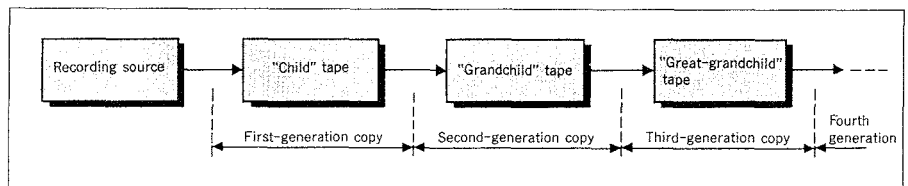

Fig. 7: Serial copying
- Serial copying means copying in series from the original source (See Fig. 7). Each succeeding tape is copied from an earlier copy in the manner of parent (original) begetting child (first-generation copy), child begetting grandchild (second-generation copy), grandchild begetting great-grandchild (third-generation copy) and great-grandchild begetting great-great-grandchild (fourth-generation copy). Under the SCMS, digital copying is possible up to the level of the "child" (first-generation) tape.